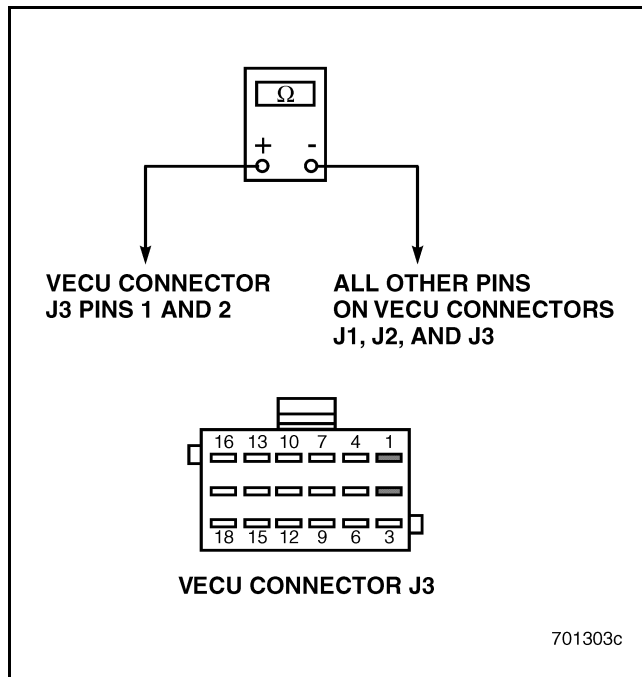

Figure 644
5. Check for continuity between VECU connector J3 pins 1 and 2 versus all other pins on VECU connectors J1, J2 and J3 (see Figure 644).